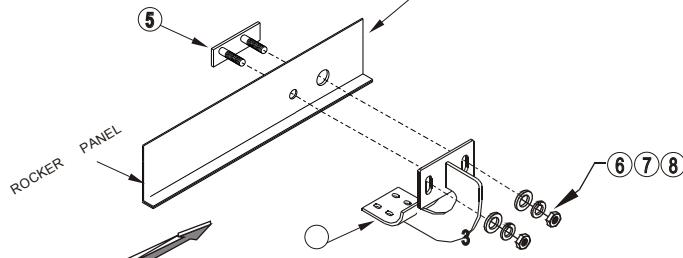

FIGURE 2 DRIVER SIDE EXTENDED CAB, REAR SHOWN
NOTE: 97-98 Extended cab driver side rear bracket uses smaller bolt plate and lower bracket holes. **SEE FIGURES 2 AND 6.**
- STEP 4. Install front and rear brackets as shown. Front bracket has an identification hole. Hand tighten. **SEE FIGURE 2.**